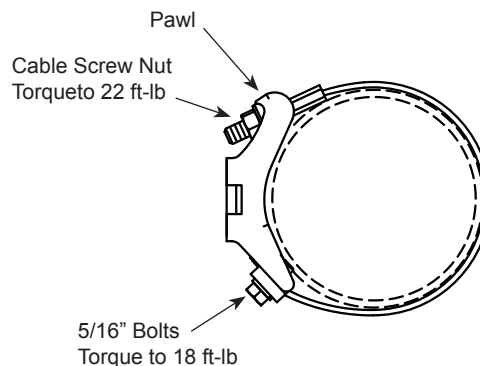

Figure 2
5. Tighten the two (2) 5/16" cable plate bolts to 18 ft-lb of torque. DO NOT OVERTIGHTEN.
7. Plumb and level the clamp using a 3/8" Open End Wrench to hold the cable screw. Torque the cable screw assembly nut to 22 ft-lb of torque. (Figure 2). DO NOT OVERTIGHTEN. Do not allow the cable to rotate while torquing the nut.